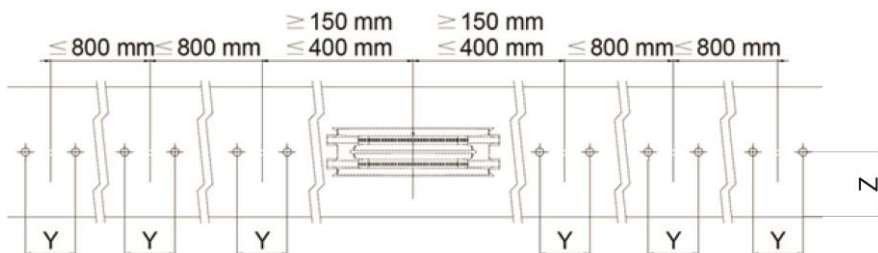

Fig. 18: Holes for the middle section
- Drill all of the other fastening holes for the hanger clamps, see Fig. 18 and 19.